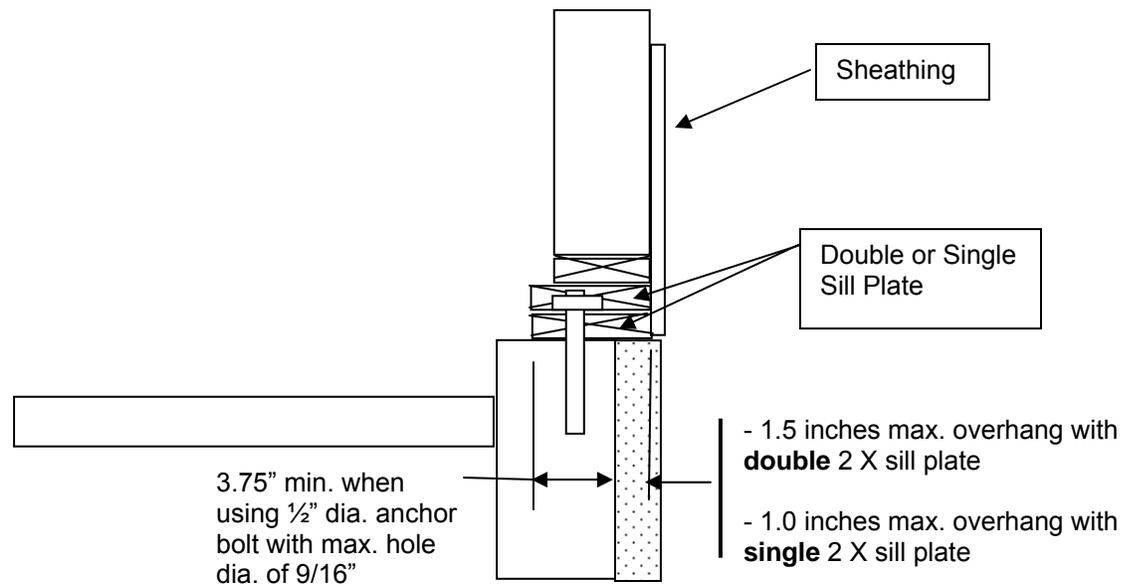

Figure 4
1. Sill plate overhang limited to $\frac{1}{2}$ the nominal thickness when rim joist is resting on outer edge. See Figure 4.
2. s. SPS 321.02 (1)(d) requires a full width sill plate over open-core masonry units.